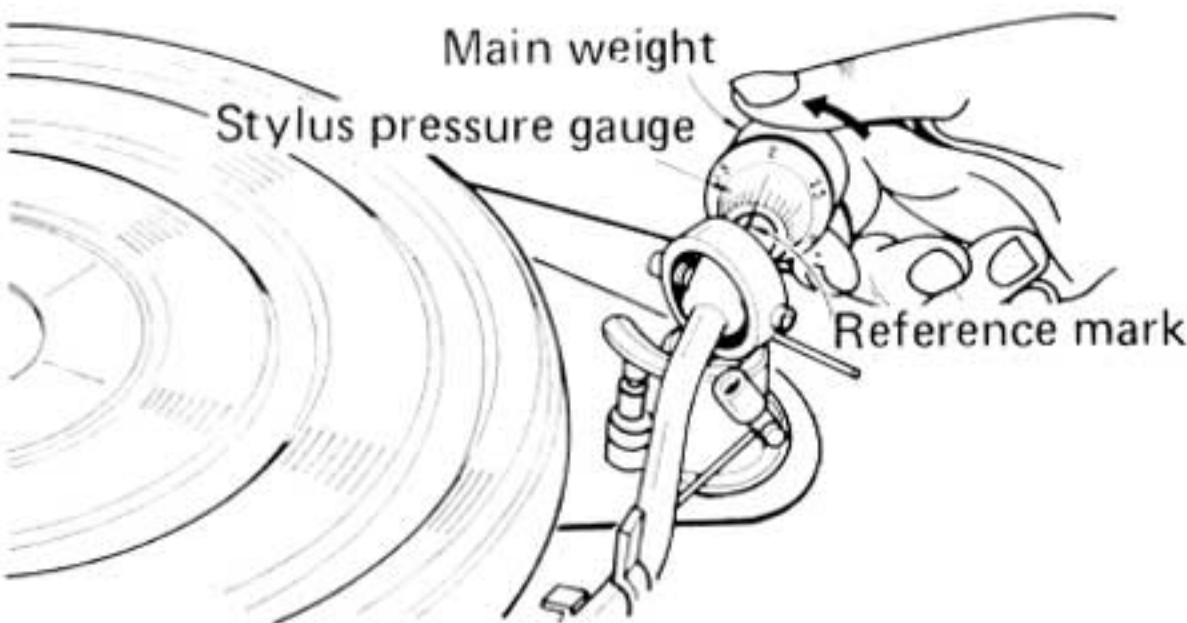

Fig. 6
- 4. Each graduation on the weight corresponds to a stylus pressure of 0.1g. Turn the weight and the scale together till the scale shows the stylus pressure recommended by the cartridge manufacture. (Fig. 6).